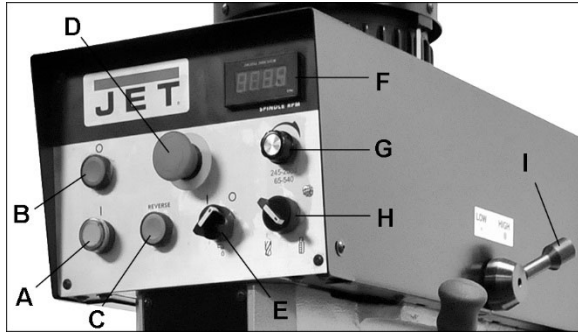

Figure 7-1: controls (JDP-20EVST-230 shown)
The front panel (Figure 7-1) contains all the controls required to operate the drill press. The A.C. inverter in the electrical box does not require any programming, it is pre-programmed from the factory. **Do not attempt to change inverter settings.** Use only the controls on the front panel. If you suspect a problem with the inverter or its
5. MAKE SURE DRIVE MOTOR IS RUNNING BEFORE turning speed shift lever (I, Figure 7-1) in either direction.